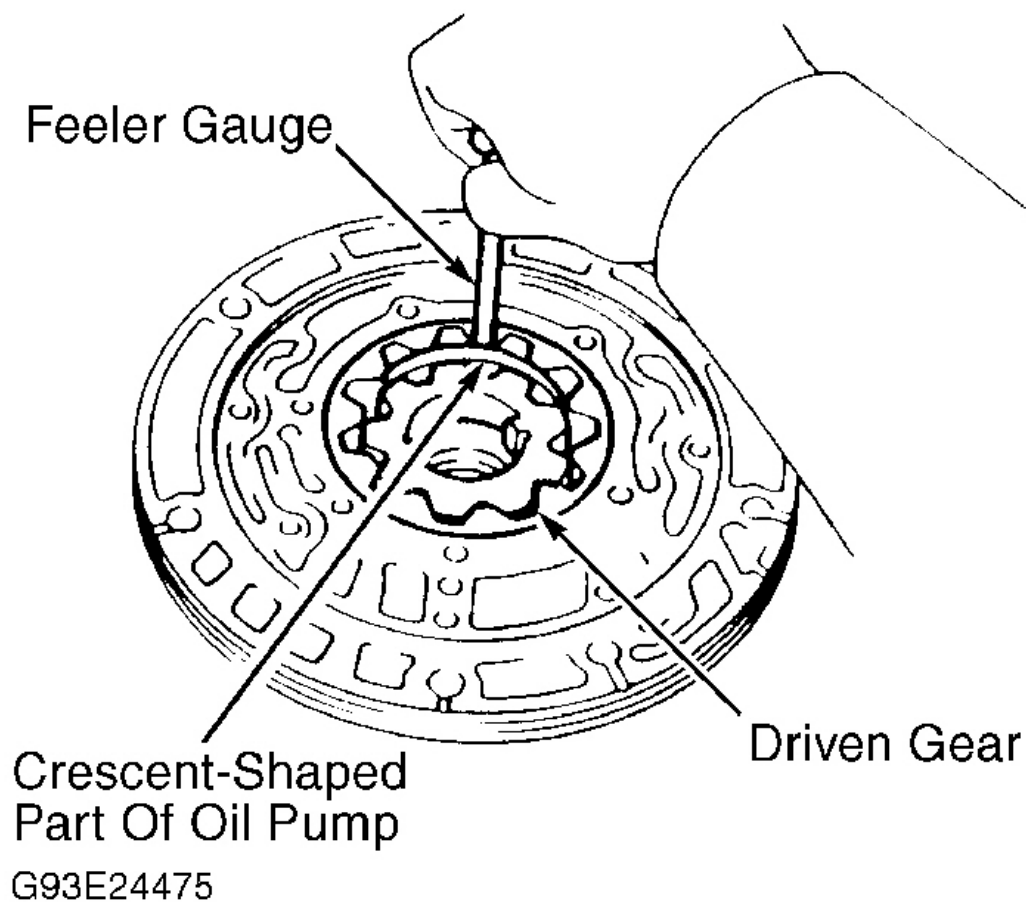

Fig. 25: Checking Oil Pump Gear Tip Clearance
2. Measure tip clearance between driven gear and crescent-shaped part of oil pump body. See **Fig. 25**. Replace oil pump body if clearance is not within specification. See **OIL PUMP CLEARANCE SPECIFICATIONS** table.